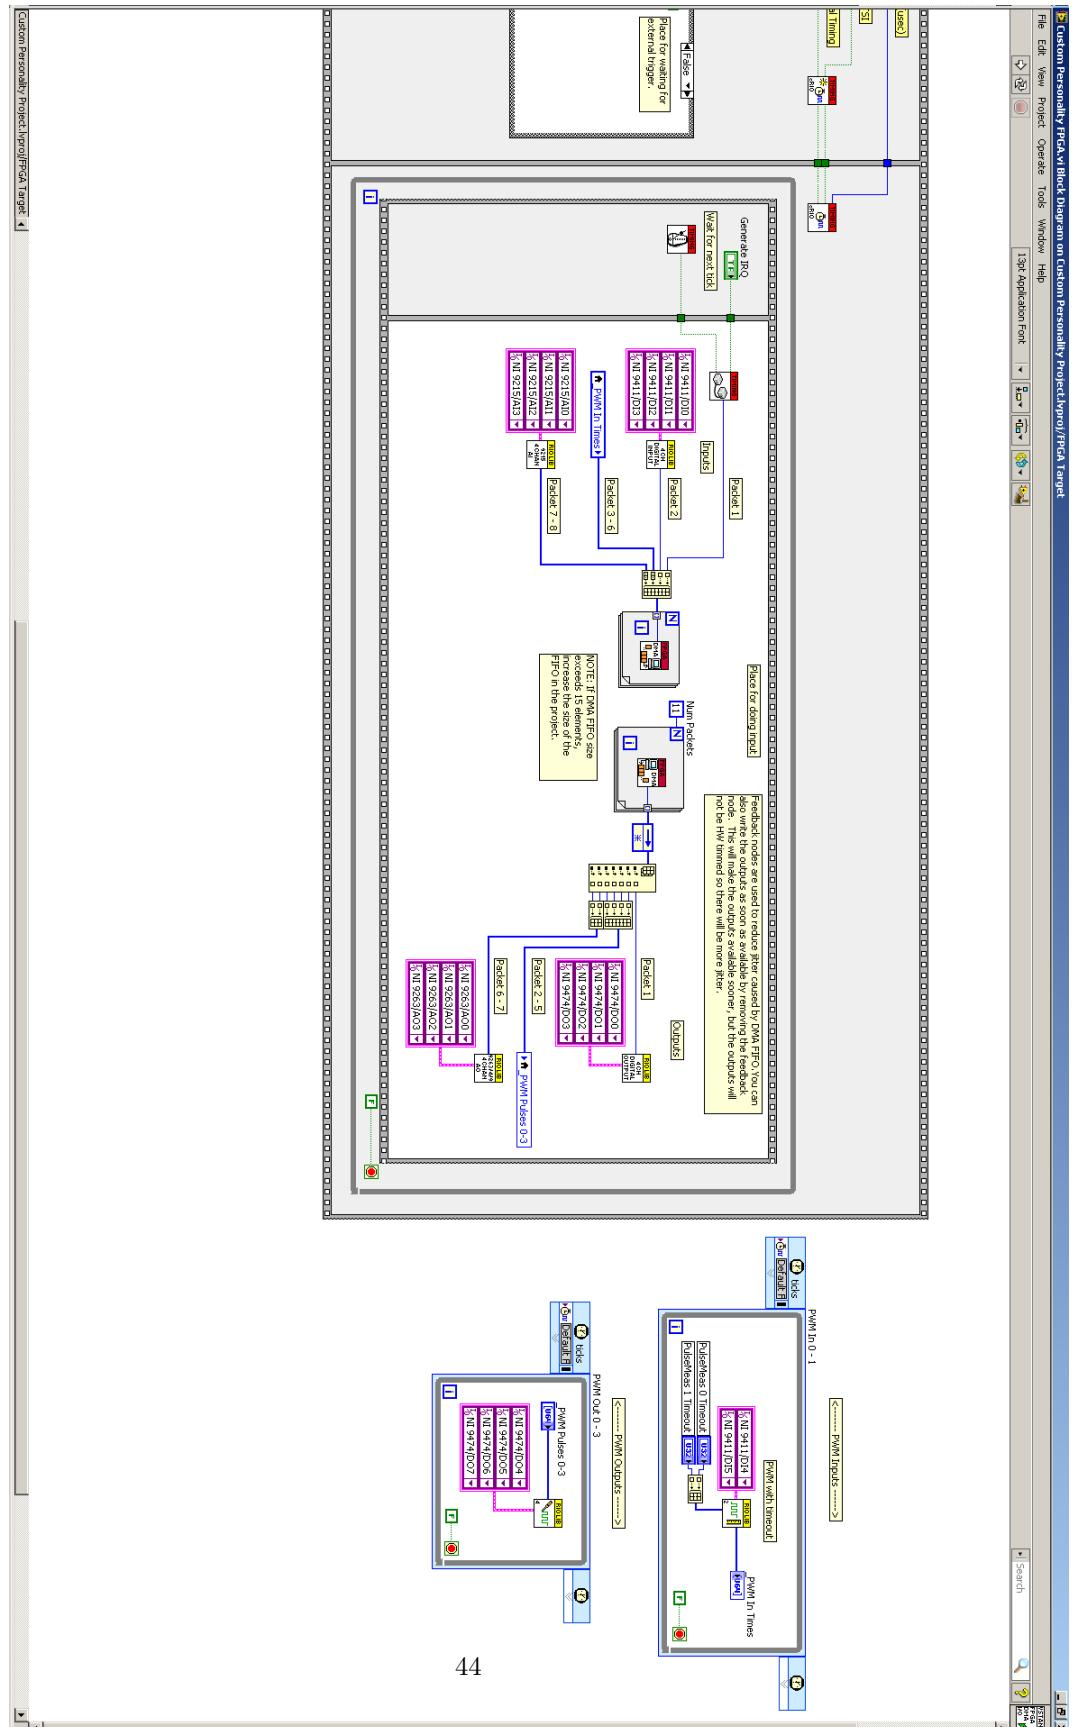
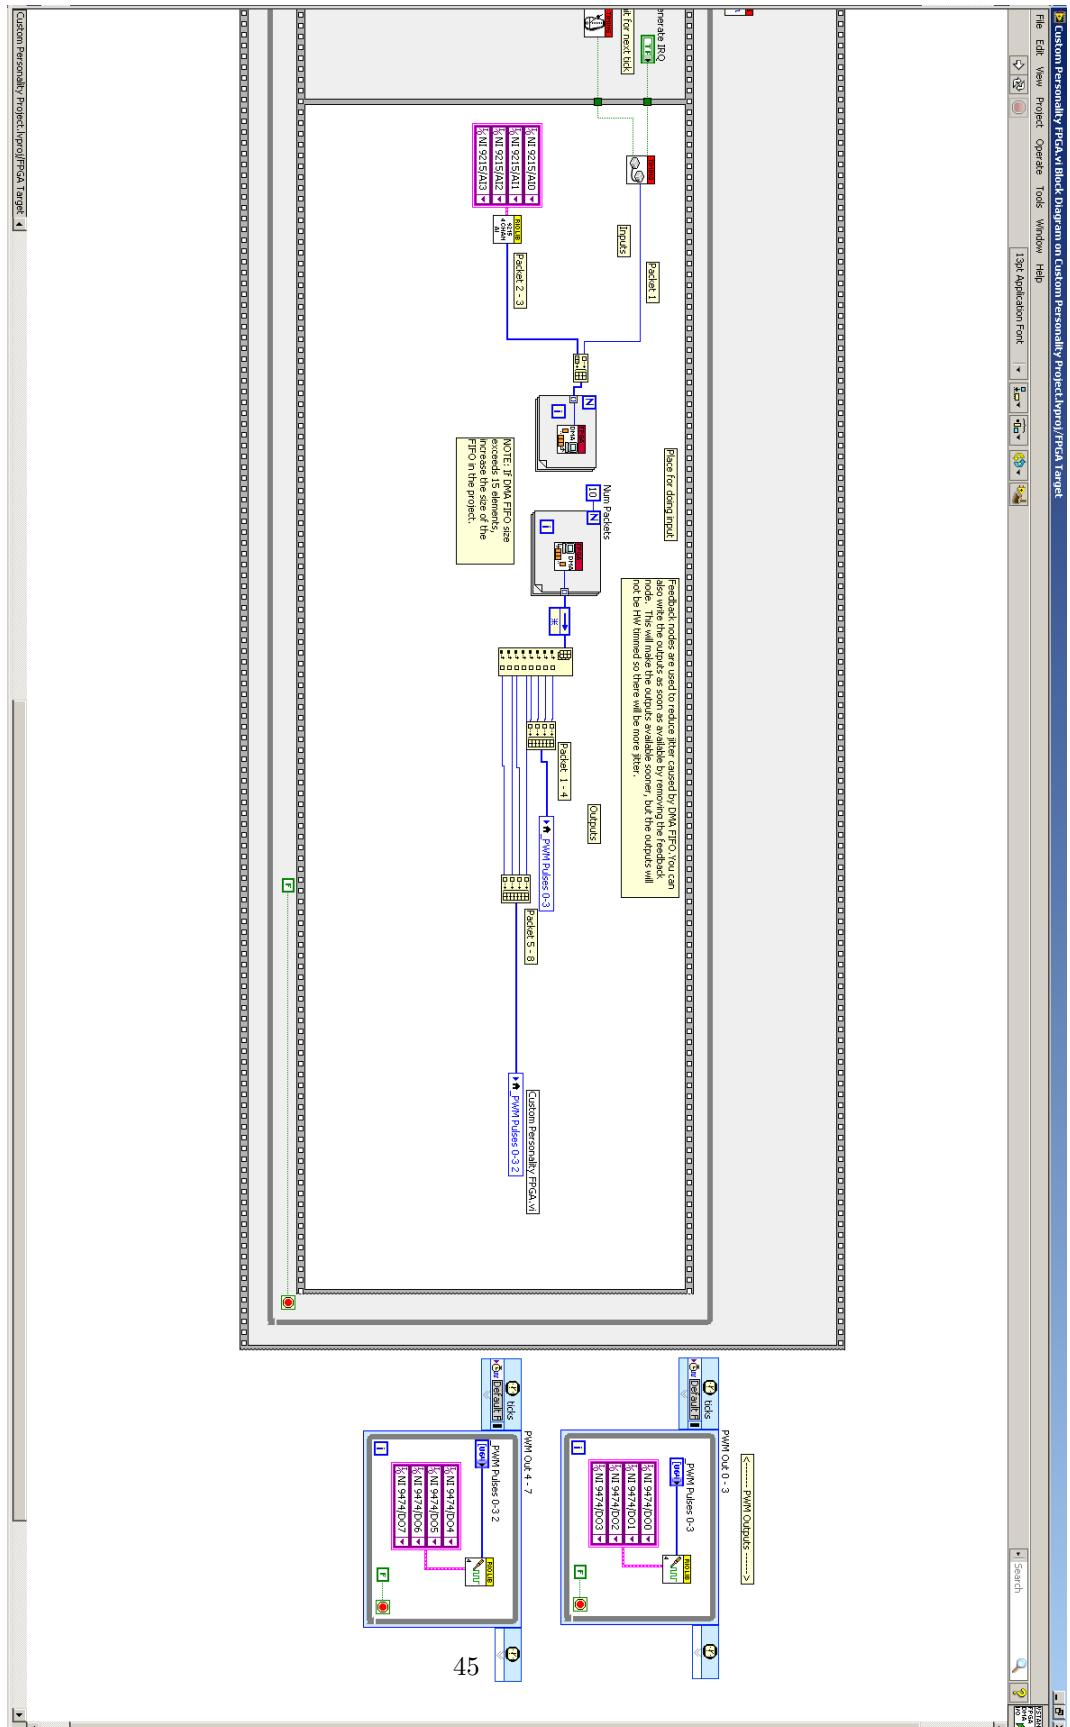

Figure 42: Create Labview FPGA target and XML - 11
Figure 43: Create Labview FPGA target and XML - 12
11. You should now see a block diagram similar to Figure 42. You will now have to redesign this to look like Figure 43. This will be valid for our system, if you have different I/O modules the block diagram need to reflect this.